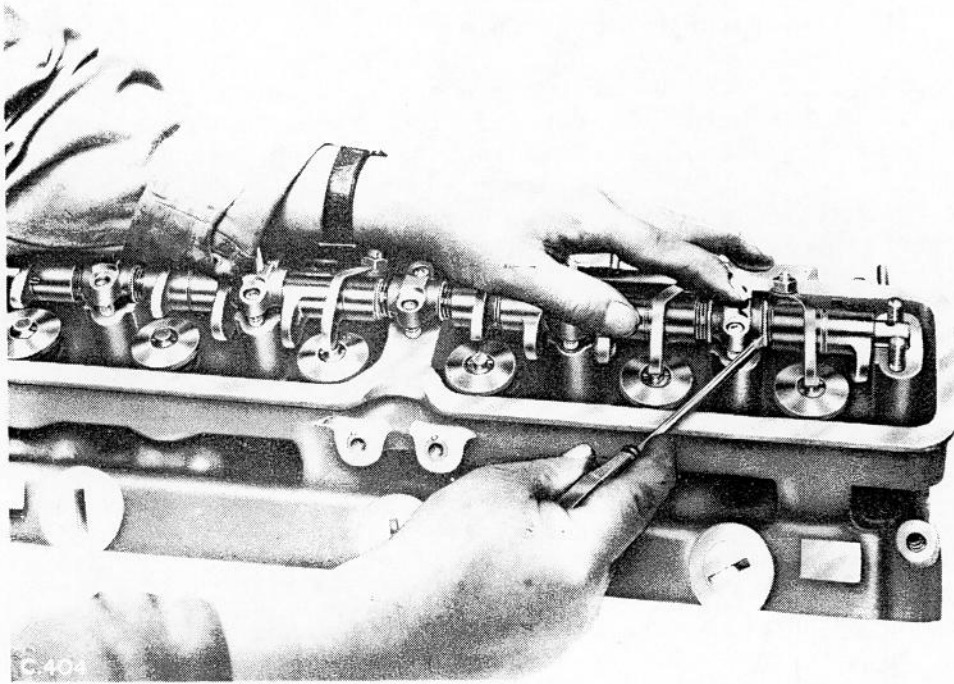

Fig.26 Fitting inlet rocker spindle assembly (Stage 4)
5. Starting from the rear, use a suitable tool to position the pen steel washers while using the left forearm to prevent the opposite end of the spindle from lifting, see Fig. 26.